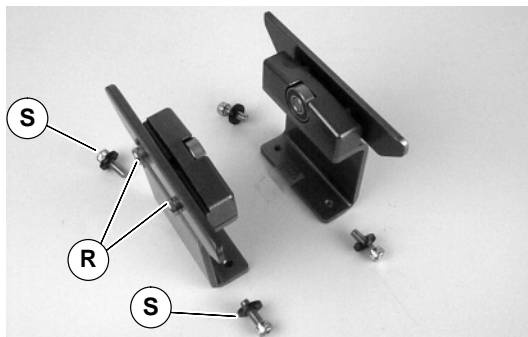

Figure 25
- Loosen, do not remove, bracket screws (R of Figure 25). Remove mounting screws and washers (S).